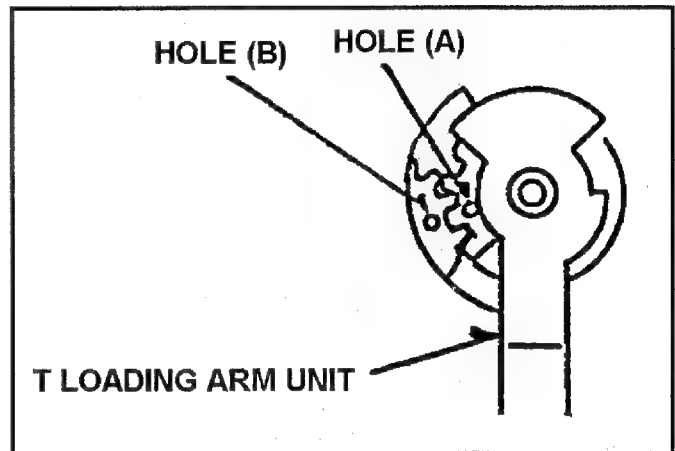

Fig. 10-10-1 Phase Adjustment of T1 Loading Arm Unit
1. When installing the T1 Boat Unit, the **hole (A)** should match **hole (B)** as shown in Figure 10-10-1.
3. Post Height Pre-adjustment (Refer to item 1-4 of section 3) and Linearity Adjustment (Refer to item 1-13 of section 3 [Tape Path Adjustment Procedure]) should be performed.